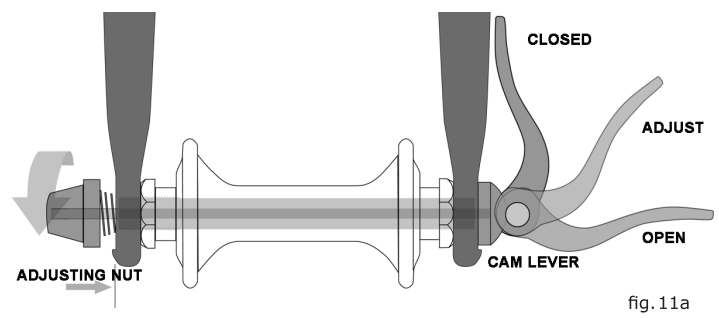
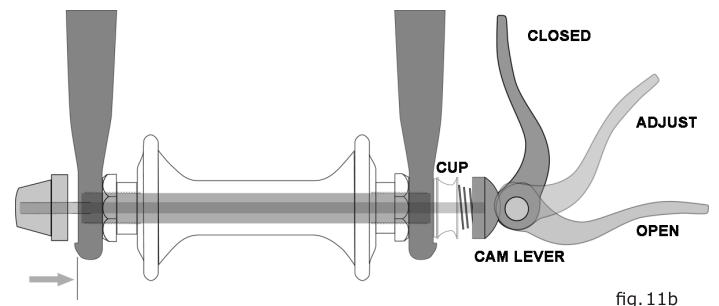

fig. 11a
fig. 11b
1. A hollow axle with a shaft ("skewer") running through it which has an adjustable-tension nut on one end and an over-center cam lever on the other (cam action system), [**fig. 11a & 11b**].
There are currently two types of over-center cam wheel retention mechanisms: the traditional over-center cam [fig. 11a], and the cam-and-cup system [fig. 11b]. Both use an over-center cam action to clamp the e-bike's wheel in place. People also commonly refer to these as quick-release axles. Your e-bike may use one of these styles for the front wheel, and a different for the rear wheel.
#### a. Adjusting the traditional cam action mechanism [fig. 11a]
### b. Adjusting the cam-and-cup mechanism [fig. 11b]
(2) If your e-bike has cam action front wheel retention or "quick-release axle," move the cam lever from the locked or CLOSED position to the OPEN position [**fig. 11a & 11b**]. If your e-bike has through-bolt or bolt-on
(3) If your front fork has a clip-on type secondary retention device, disengage it. If your front fork has an integral secondary retention device, and a traditional cam-action system [**fig. 11a**] loosen the tension-adjusting nut enough to allow removing the wheel from the dropouts. If your front wheel uses a cam-and-cup system, [**fig. 11b**] squeeze the cup and cam lever together while removing the wheel. No rotation of any part is necessary with the cam-and-cup system.
(1) If your e-bike has cam action front wheel retention, move the cam lever so that it curves away from the wheel [**fig. 11a & 11b**]. This is the OPEN position. If your bike has a thru-axle, through-bolt or bolt-on front wheel retention, go to the next step.
(2) With the steering fork facing forward, insert the wheel between the fork blades so that the axle seats firmly at the top
of the fork dropouts. The cam lever, if there is one, should be on rider's left side of the bicycle [fig. 11a & 11b]. If your e-bike has a clip-on type secondary retention device, engage it.
(3) If your e-bike has a thru-axle front wheel mounting system, insert the thru-axle through the unthreaded dropout side and through the hub body, then thread the thru-axle into the threads of the opposing dropout.
(4) If your bike has a traditional cam-action mechanism: holding the cam lever in the ADJUST position with your right hand, tighten the tension-adjusting nut with your left hand until it is finger tight against the fork dropout [fig. 11a]. If you have a cam-and-cup system: the nut and cup [fig. 11b] will have snapped into the recessed area of the fork dropouts and no adjustment should be required.
(5) While pushing the wheel firmly to the top of the slots in the fork dropouts, and at the same time centering the wheel rim in the fork:
(a) With a cam-action system, move the cam lever upwards and swing it into the CLOSED position [fig. 11a & 11b]. The lever should now be parallel to the fork blade and curved toward the wheel. To apply enough clamping force, you should have to wrap your fingers around the fork blade for leverage, and the lever should leave a clear imprint in the palm of your hand.
(3) On a derailleur-gear system, pull the derailleur body back with your right hand. Some rear derailleurs have a "lock" button designed to hold the derailleur in an open position when removing the rear wheel. Feel free to use this feature if your derailleur is equipped with it.
(4) With a cam-action mechanism, move the quick-release lever to the OPEN position [fig. 11a & 11b]. With a through-bolt or bolt-on mechanism, loosen the fastener(s) with an appropriate wrench, lock lever or integral lever.
(1) With a cam-action system, move the cam lever to the OPEN position [fig. 11a & 11b]. The lever should be on the side of the wheel opposite the derailleur and free-wheel sprockets.
(a) With a cam-action system, move the cam lever upward and swing it into the CLOSED position [fig. 11a & 11b]. The lever should now be parallel to the seatstay or chainstay and curved toward the wheel. To apply enough clamping force, you should have to wrap your fingers around the seatstay or chainstay for leverage, and the lever should leave a clear imprint in the palm of your hand.
lease." The seatpost cam-action binder works exactly like the traditional wheel cam-action fastener. Refer to **Page 46, Section 11: "Tech", subsection A.2: "Wheels with cam-action systems"**. While a cam-action binder looks like a long bolt with a lever on one end and a nut on the other, the binder uses an over-center cam action to firmly clamp the seatpost [**see fig. 11a**].